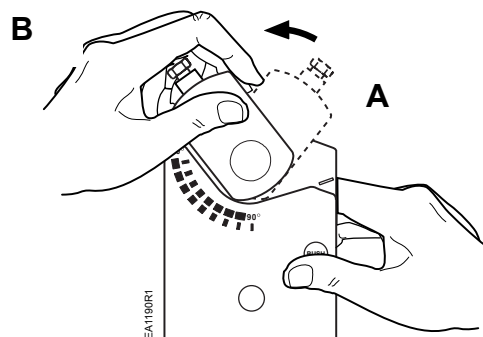

Figure 4.
1. Insert shaft adapter at position A (See Figure 4).
3. Remove the shaft adapter and manually reinstall it against the external end stop at position B (See Figure 4).
2. Manually install the shaft adapter against the external stop on the left end of the actuator. (See position B in Figure 4.)